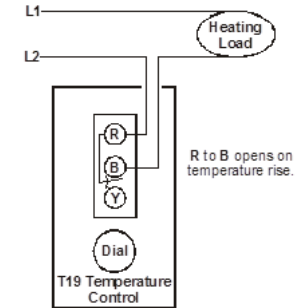

Figure 2: Standard wiring for heating applications
When the temperature at the sensing element rises to the setpoint, which you can view as the dial setting, the switch between R and Y closes, and the switch between R and B opens on single-pole double-throw (SPDT) models. See Figures 2, 3, and 4.
- Make the wiring connections to the screw terminals. See Figures 2, 3, and 4.